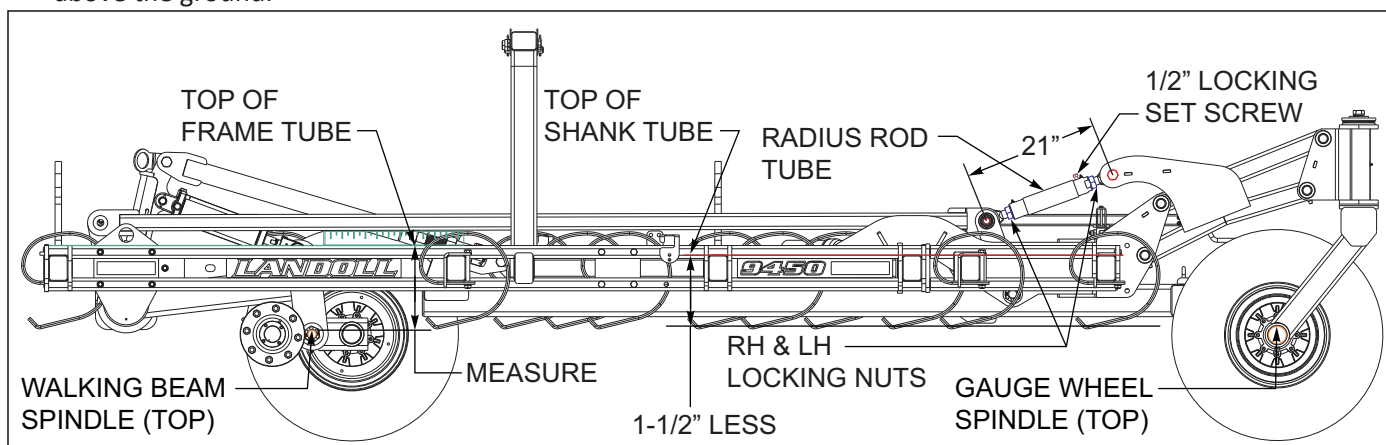

Figure 4-7: Gauge Wheel Adjustment
1. The front gauge wheels of the floating hitch cultivator raise and lower with center and wing lift wheels keeping the frames level during operation **See Figure 4-7**. The gauge wheels will caster while making turns with the cultivator.
*Initially the front radius rods are set to 21" on center before final adjustment **See Figure 4-7**.*